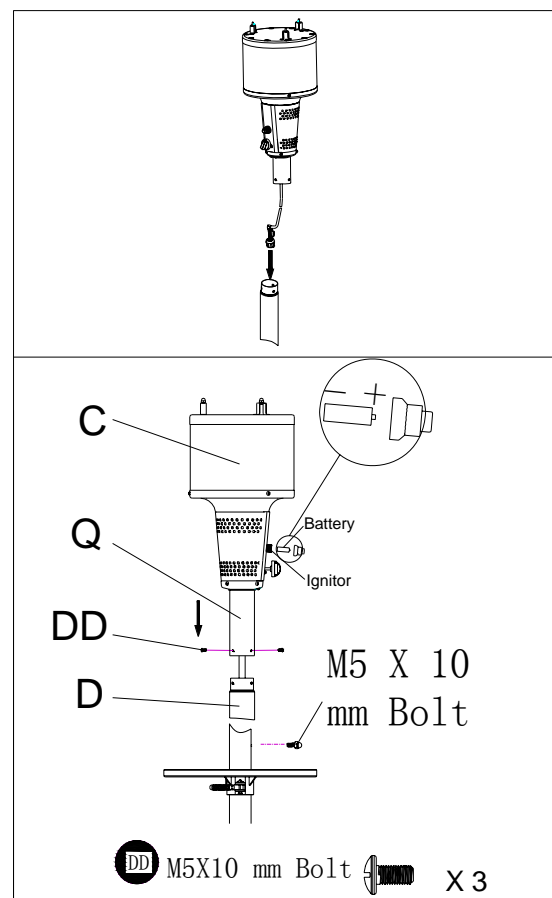

Fig. 7
7. Assemble the four KD Domes (B) with four M5 × 6 mm Bolts (FF.), four M5 Acorn Nuts (GG.) and four 5 mm Washers (HH). Attach Top Dome (A) to assembled KD Domes by using eight M5 × 8 mm Bolts (FF.), eight M5 Acorn Nuts (GG.) and eight 5 mm Washers (HH) (Fig. 7)